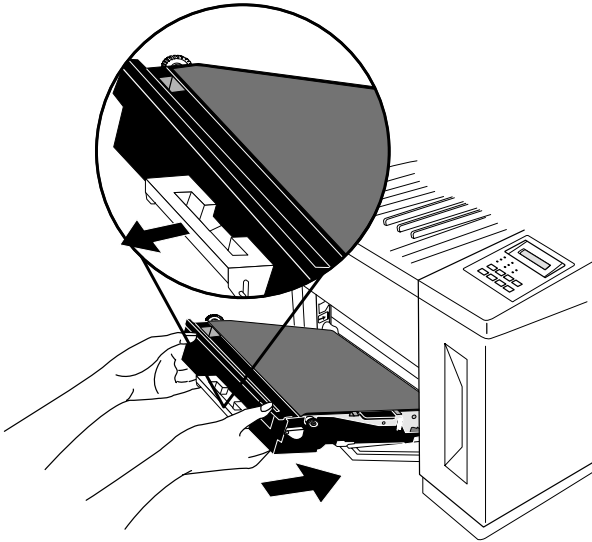

Fig. 2.26 Slide Cartridge Partially into Printer
5. Slide the cartridge three-quarters of the way into the printer until the notches on each side of the bottom rest on the lip of the manual feed tray (fig. 2.26).